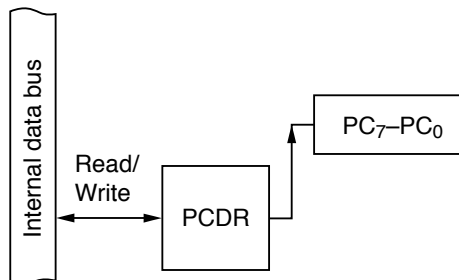

Figure 9-84 Output Port (Mode 7)
(3) Output Port (All Pins: Mode 7): Figure 9-84 shows a block diagram illustrating the general-purpose output function. Table 9-61 indicates register read/write data. The value written in the port C data register (PCDR) is output at the pin. When read, PCDR returns the value written in PCDR.